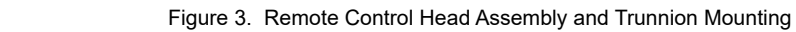

Figure 3. Remote Control Head Assembly and Trunnion Mounting
1. Verify that the flex cable is fully seated in the connector on the control head assembly. (See Figure 3.)
2. Assemble the flex cable to flex connector on the remote control head interface module, making sure it is fully seated. (See Figure 3.)
1. Verify that the flex cable is fully seated in connector on the remote radio interface module. (See Figure 3.)
2. Assemble the flex cable to the flex connector in the radio assembly, making sure it is fully seated. (See Figure 3.)